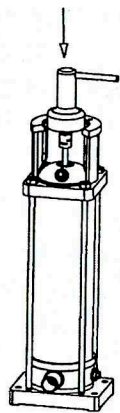

Figure 2
- 6.7. Put the mechanical seal in the hole of the top cover along the shaft extension, screw the nut of mechanical seal into the hole until it is firmly tightened. (See Figure 2)